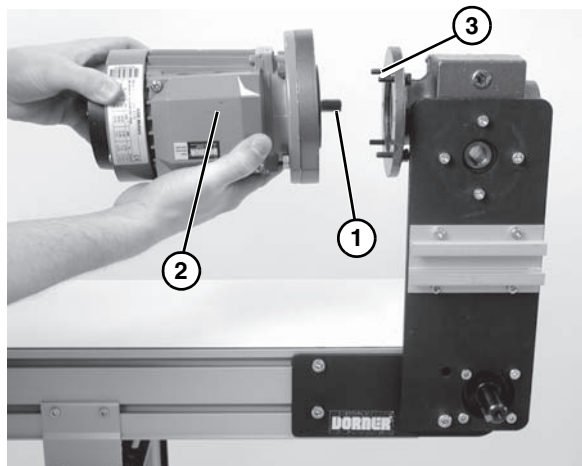

Figure 24
5. With key (**Figure 24, item 1**) in keyway, slide motor (**Figure 24, item 2**) and gear reducer together. Install screws (**Figure 24, item 3**) and tighten.